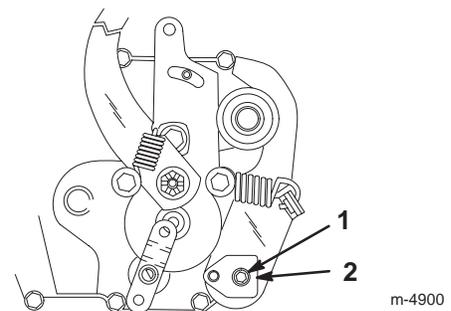

Figure 5
Note: To gain access to the adjusting puck (Fig. 5), you may need to remove the tire.
9. Loosen the adjusting puck screw (Fig. 5).